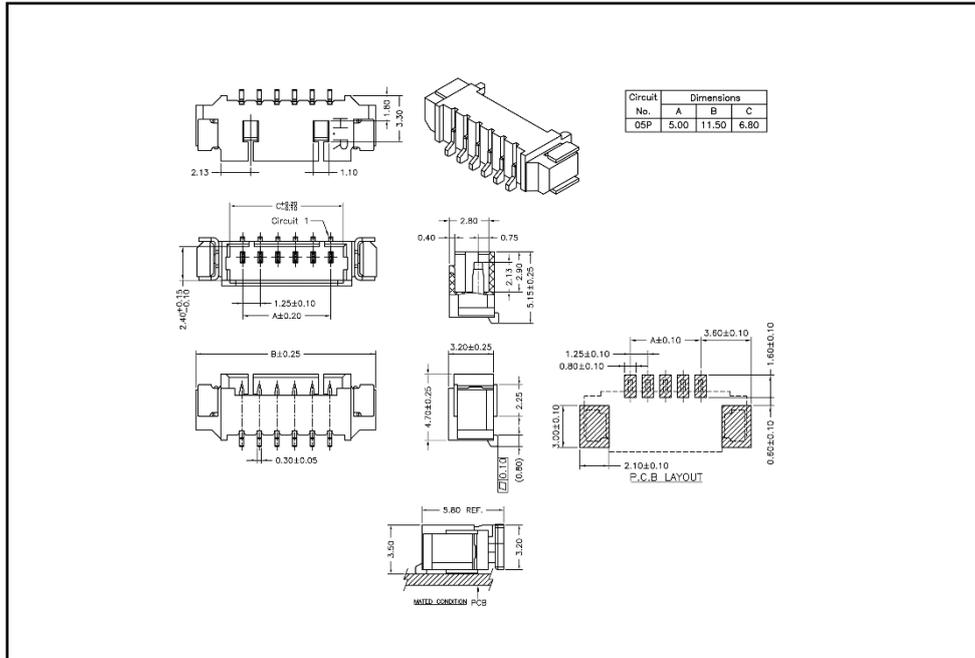

Figure 6: ACM1552U-Y USB Connector (Male) Specification
- Connector on **Figure 6** is attached to the PCB.